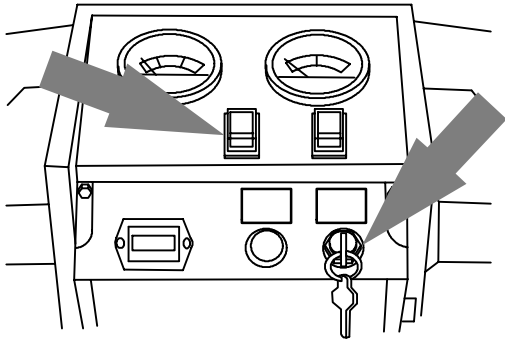

FIG. 22
- Turn on machine power switch, and key switch if equipped (Figure 22).